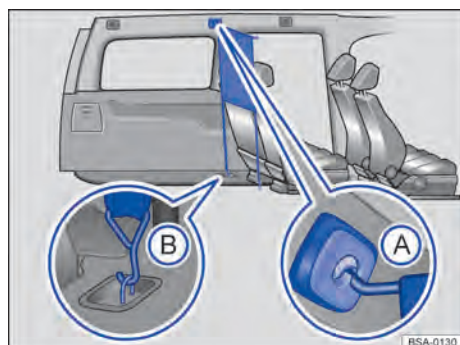

Fig. 151 Behind the second row of seats: installed net partition.
1. Hook the net partition into the *front left (5-seater) or centre left (7-seater)* mounting in the roof → Fig. 151 (A). Ensure that the transverse rod is pulled up over the upper position so that it latches securely in the slots.
3. Hook the net partition into the lower fastening rings → Fig. 151 (B).